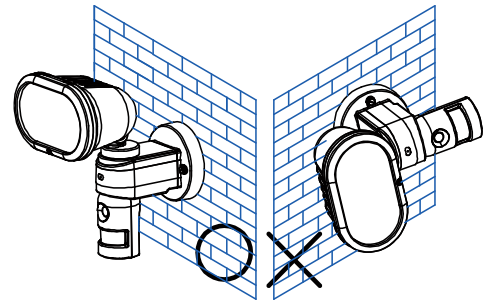

FIGURE 33
- The halogen bulb installed must parallel to the ground as shown in the below drawing. (FIGURE 33)